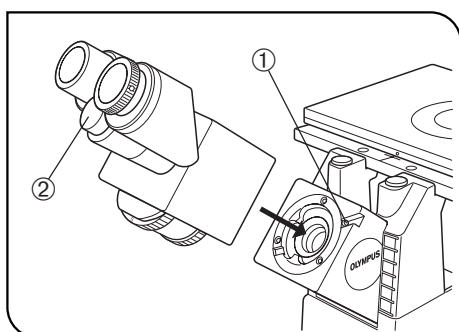
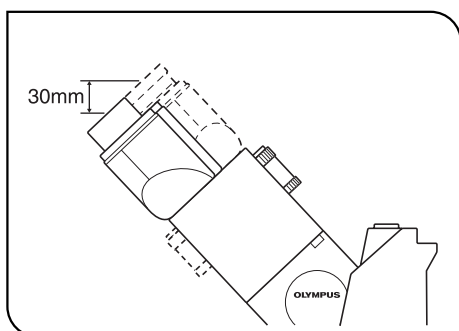

Fig. 97
Fig. 98
7 Attaching the Observation Tube (Figs. 97 to 100)
U-BI90CT, U-BI90 or U-TBI90 Binocular Tube (U-MO Monocular Tube) (Figs. 97 & 98)
1. Using the Allen screwdriver, loosen the observation tube clamping screw ① on the observation tube mount. (Fig. 97)
2. Attach the circular dovetail mount of the observation tube into the observation tube mount, placing the observation tube so that the interpupillary distance scale numbers ② are seen right side up. Then tighten the clamping screw to clamp the observation tube.
- Ⓞ Normally, the distance from the surface of the desk to the eye point is approximately 430 mm. If it is desirable to lower the eye point position, the observation tube (provided it is other than the U-TBI90) may be detached, turned 180° and then attached on the observation tube mount again. This lowers the eye point height by approximately 30 mm. (Fig. 98)